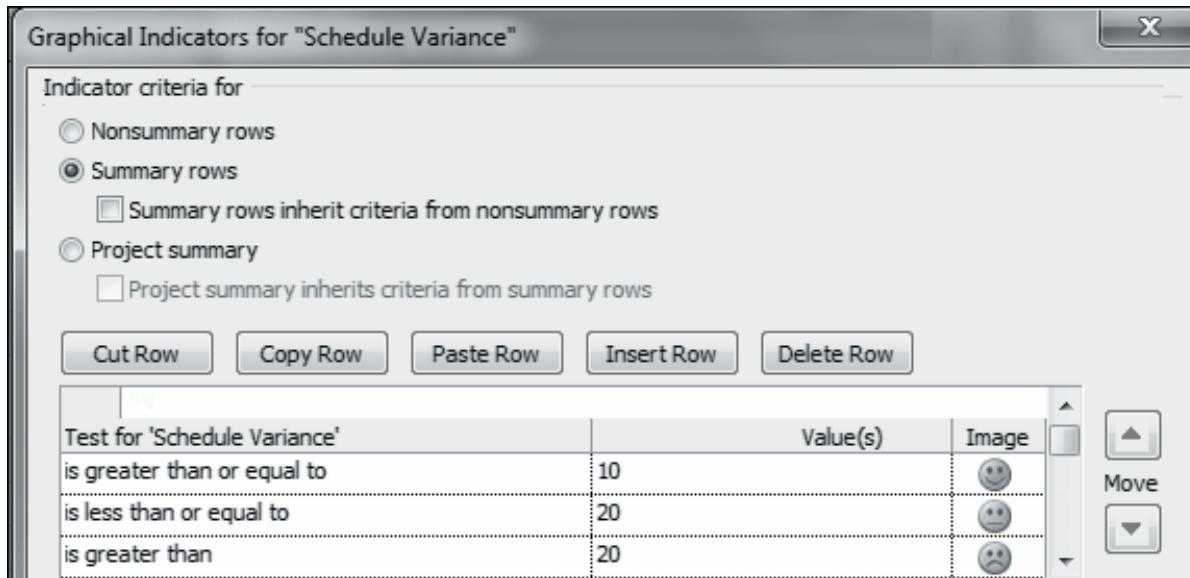

Figure 12.3: Graphical Indicator Settings for Schedule Variance
9. Click **Image** cell to select an image from the drop-down list for the condition and value(s) selected as shown in figure 12.3.